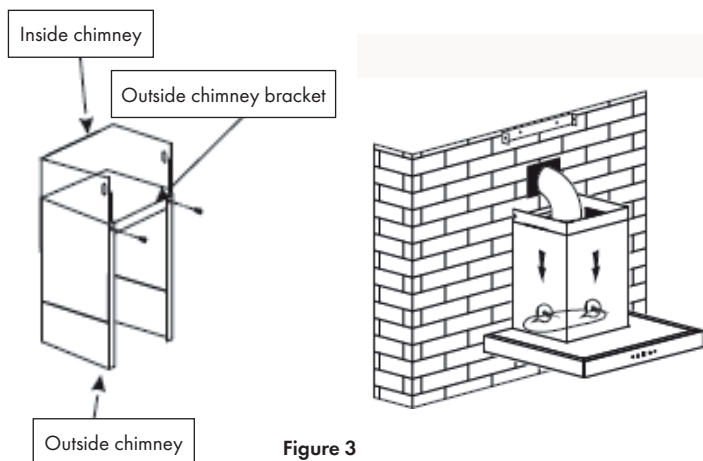

Figure 3
2. Install the V-flaps in the outlet, and fix the expansion pipe with cable tie on the outlet. Then hang the hood on to the hook (see figure 3).
Afterwards, install chimneys on the cooker hood. Lay the expansion pipe to the wall outlet. Fix the expansion pipe with the cable tie on the wall-outlet (see figure 3).
3. Adjust the height of the inside chimney to the position of the inside chimney bracket and fix on it by 2 screws (ST 4\*8 mm). After adjusting the position, fix the body with safety screw (see figure 3 and 4).